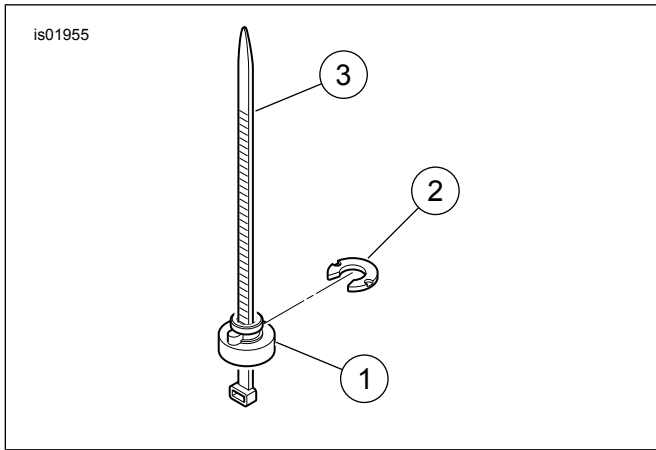

Figure 2. Installation Tool
2. See Figure 2. Install the retention nut and washer from the kit (as shown) in the front fender hole location. Using the cable strap as an installation tool: